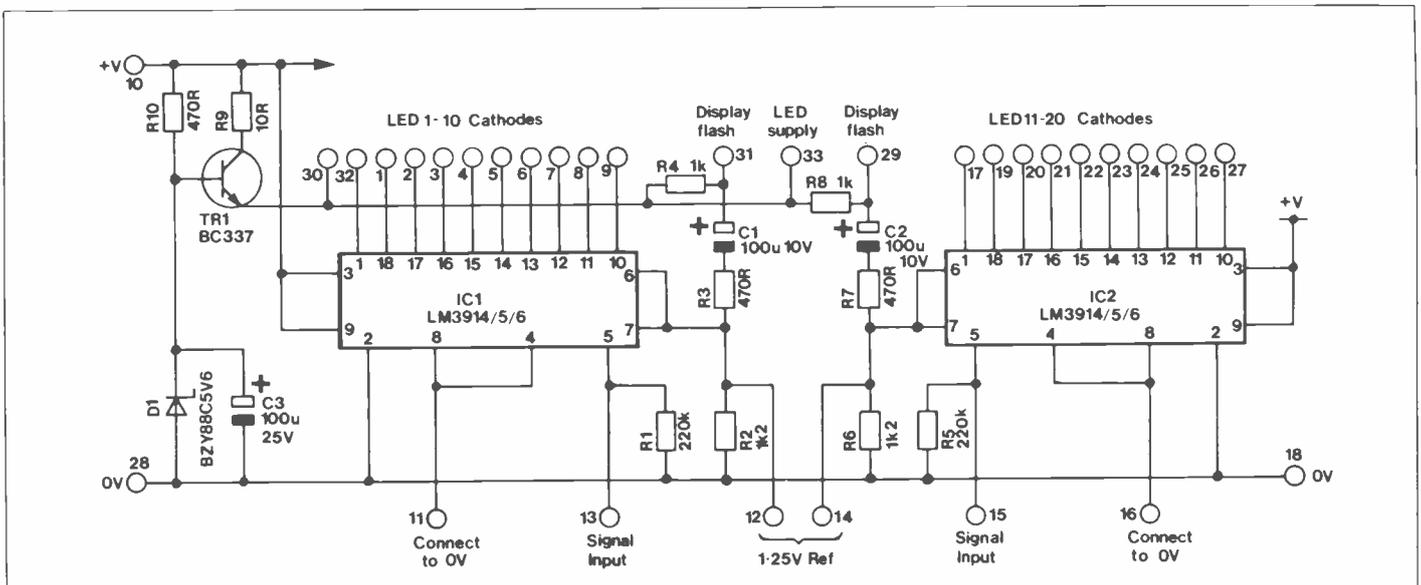

Figure 1. Circuit diagram
IC1 (2) requires very little external components as all LED controlling elements are internal to the IC (see figure 7). Ten comparator output stages control each LED via an internal resistor ladder network, referenced to a 1.25V constant voltage source, and an increasing signal voltage applied to the high impedance voltage follower, switches each comparator in turn. Figure 1 shows the 5V regulator: R10, D1 and TR1, which feeds each anode of LED's 1 to 20. Either single LED's or common anode 10 LED displays can be used here, and R2 determines LED current or brightness. Reducing the value of R2 increases LED current (and vice-versa) and with the recommended value of 1k Ω , approximately 10mA flows through each LED. PCB pins 4 and 8